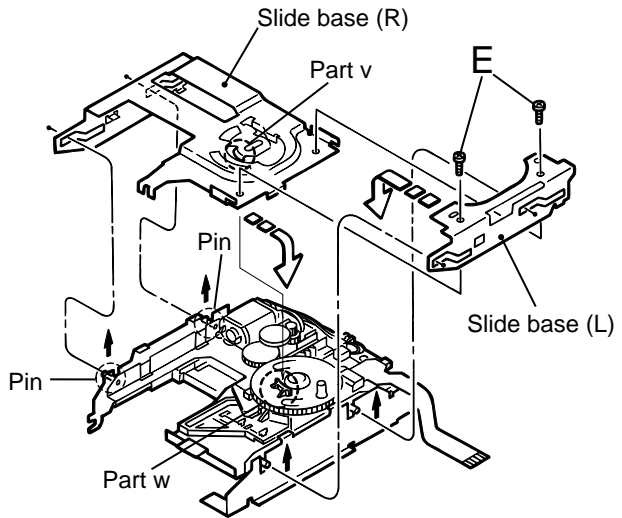

Fig.24
9. Reattach the slide base (R) while fitting the two pins on another side of the UD base to the slots of the slide base (R). (Fig.24)